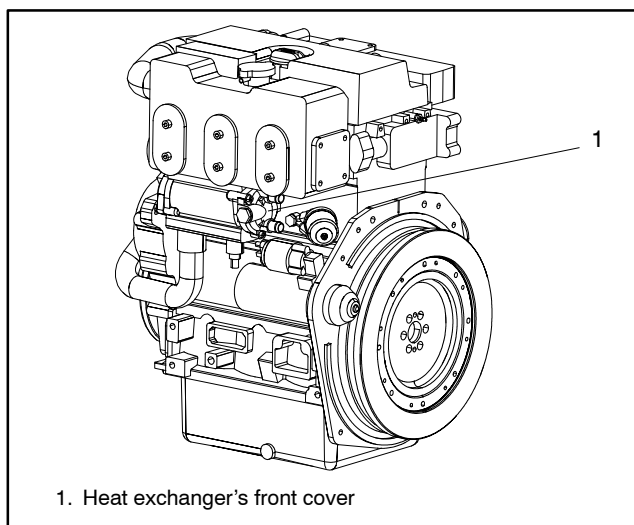
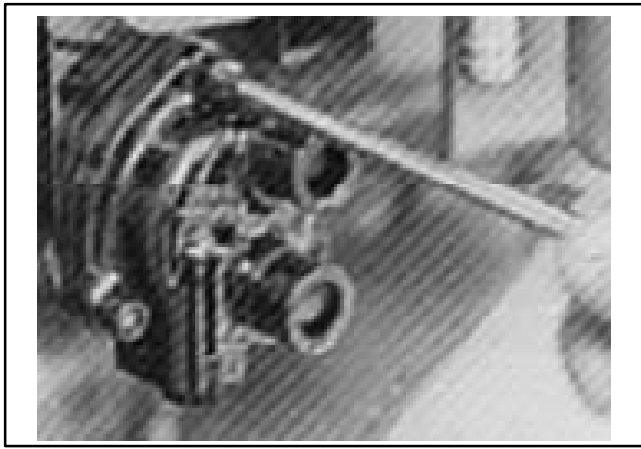

Figure 6-4 Heat Exchanger Front Cover Location
Figure 6-5 Front Cover of Heat Exchanger
6. Loosen the front cover screws of the heat exchanger. See Figure 6-4 and Figure 6-5.